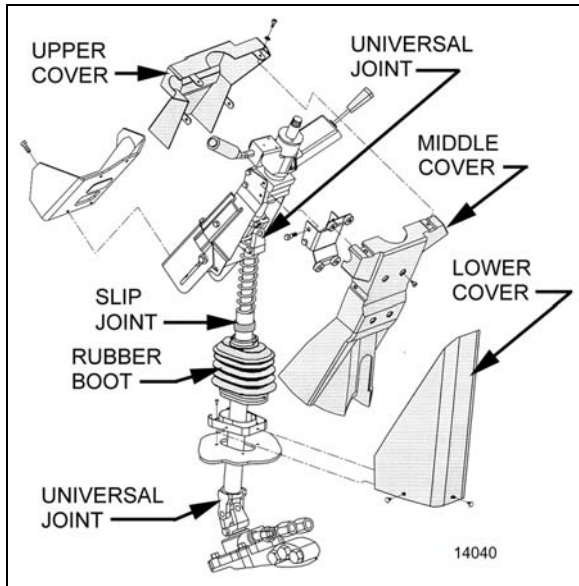

FIGURE 10: STEERING COLUMN COVERS
To disassemble the steering column from system, refer to Figure 9 & Figure 10. The steering column has no lubrication points. The lower steering column U-joint is easily accessible through the front service compartment. The upper steering column U-joint and the steering slip joint are accessible from the front driver's area. To access these joints, proceed as follows:
1. From the front driver's compartment area, remove the three plastic fasteners on steering column lower cover. Remove the lower cover (Figure 10).